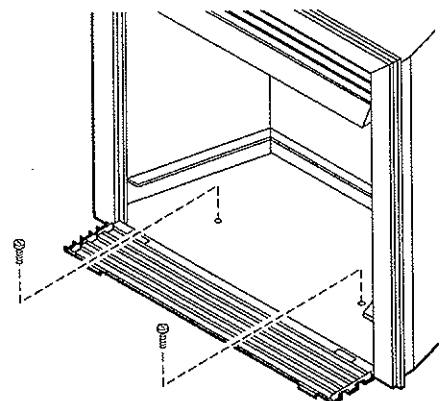

Figure 7. Securing Heater to Floor or Hearth
- Secure the firebox with two anchoring screws (3/16" x 1 1/4" length) supplied with the fire-place system *Refer to Figure 7.*